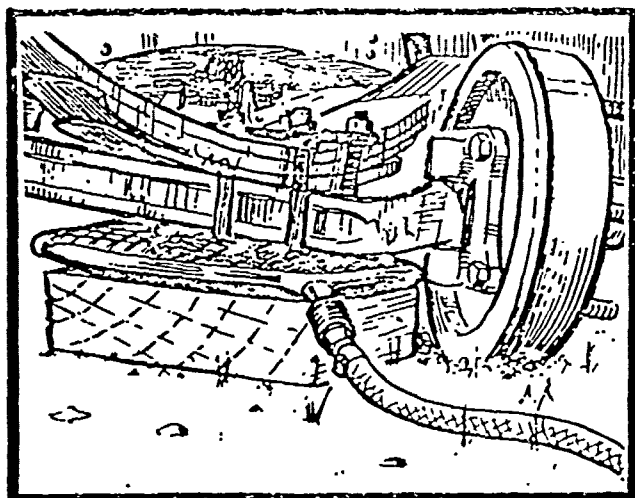

FIG. 15
3. Always maximize the contact area of the Bag. This may require you to either block up the Bags before inflating (Fig. 15) or to use the two Bags simultaneously.